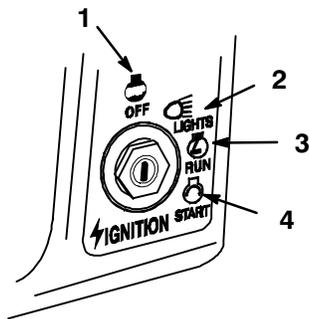

Figure 5
6. Turn the ignition key and hold it in the “START” position (Fig. 5). When the engine starts, release the key.
- Turn the ignition key to “OFF” (Fig. 5).